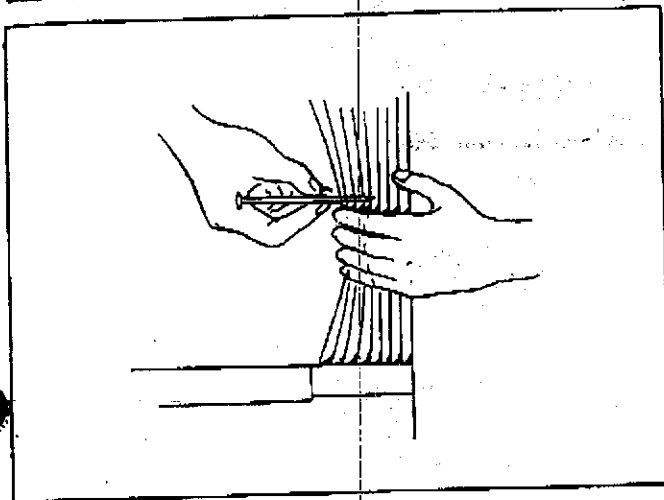

Fig. 15 - Marking Wing Panel Screw Hole Locations
16 Bring down window sash making sure wing panels and top guide are level, but do not install screw yet. Locate (3) screws on back side of each wing pane. Using a long nail or narrow pencil, make marks on the window frame through each of the screw holes in both wing panels. See Fig. 15.